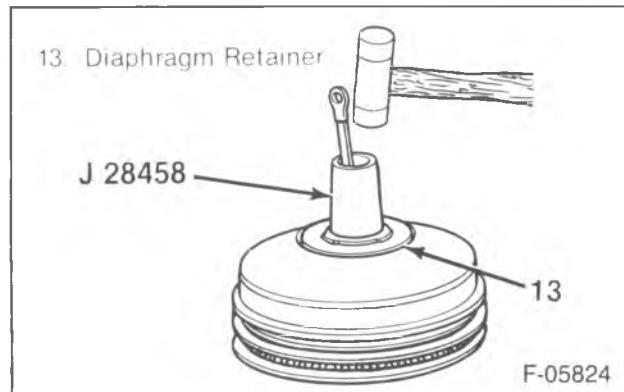
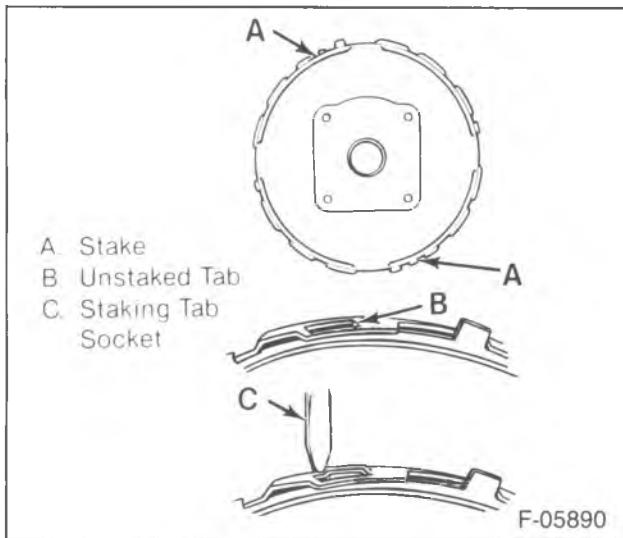

Figure 22—Installing the Diaphragm Retainer
Figure 23—Staking the Tabs
1. Diaphragm (14) into the diaphragm support (15).
3. New diaphragm retainer (13) (figure 22).
4. Filter (12), reaction retainer (11) and piston rod (10).
5. Reaction body retainer (25).
6. Power piston bearing (6) into the rear housing.
7. Power piston group into the rear housing (7).
8. Return spring (9).
- Stake the housing at two tabs 180 degrees apart (figure 23).
10. Grommet (4) and vacuum check valve (3).